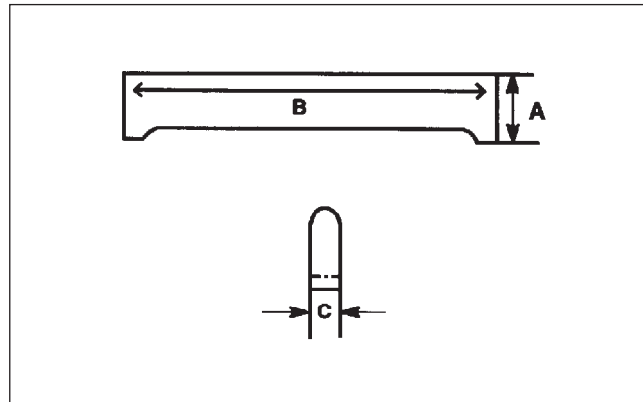

Figure 11
1. After marking each apex seal to denote its location on the rotor, measure each apex seal as in Figure 11.